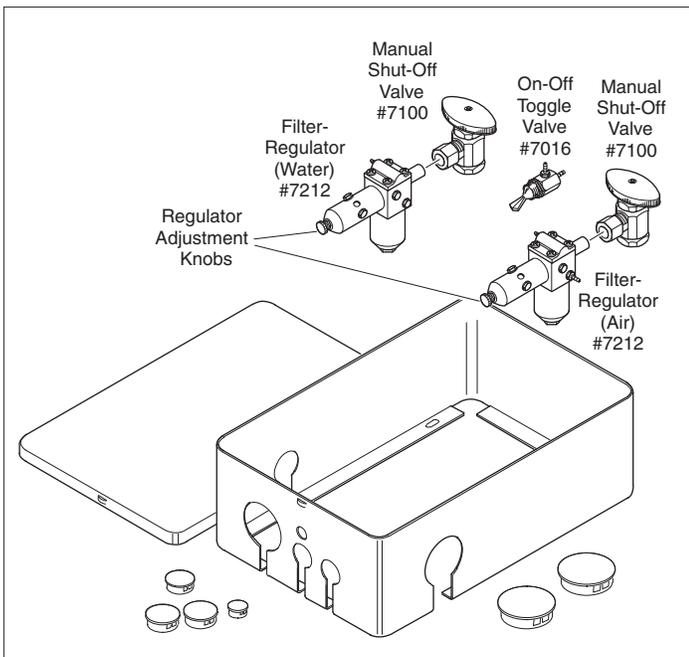

Figure 1
1. Install the manual shut-off valves on the air and water pipes, using pipe compound or Teflon tape. Use a 15/16" wrench to firmly tighten the valves, leaving them facing in the direction shown in (Figure 1).